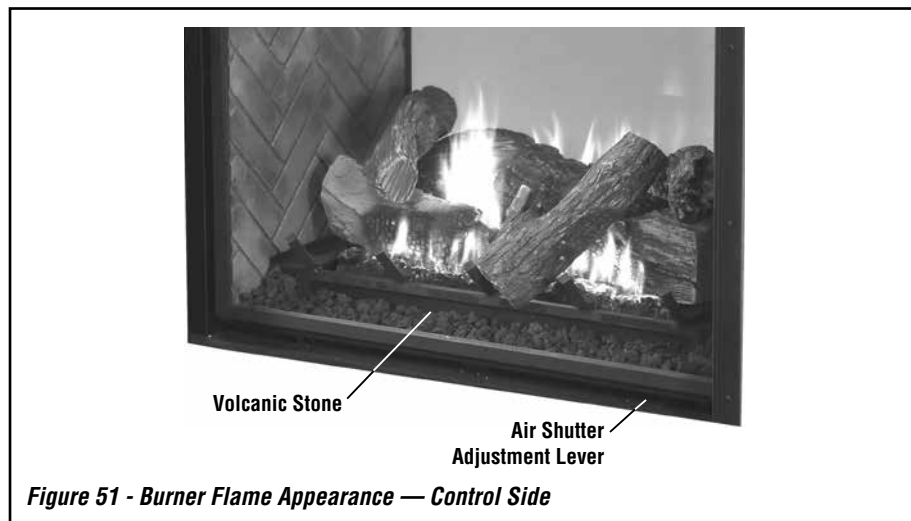

Figure 51 - Burner Flame Appearance — Control Side
2. Allow the burner to operate for at least 30 minutes while continuously observing the flame to ensure that the proper flame appearance has been achieved (see **Figures 51 and 52**).
3. Adjust the air shutter using the lever on the lower right side of the firebox on the control side (**Figure 51**).
NOTE: See **Figures 51 and 52** for proper burner flame appearance.